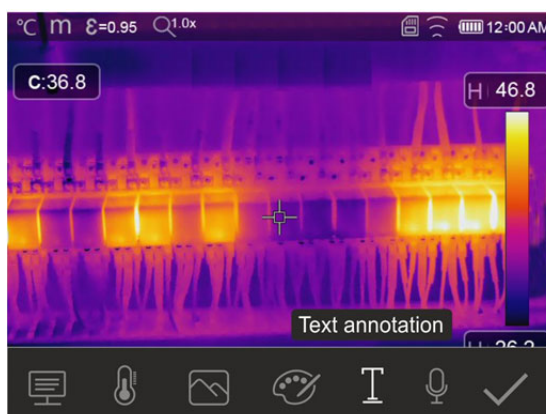

Fig. 48: Adding a text annotation to the image
4. Touch the icon “T” to add a text annotation to the image. The screen in Fig. 48 – right side appears on the display.